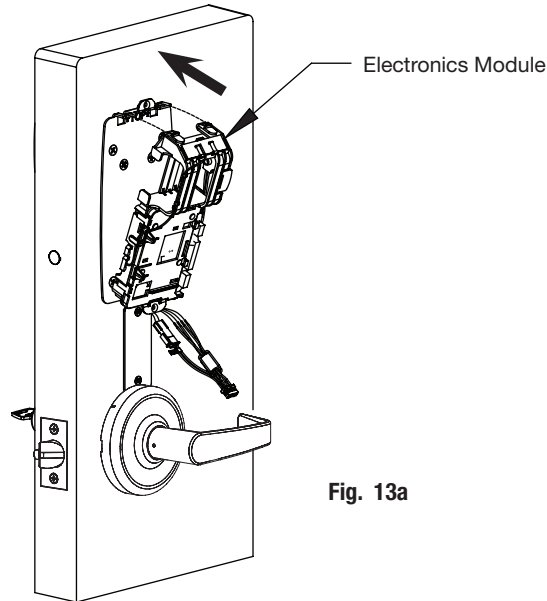

Fig. 13a
- Tilt the module upward and secure the top two tabs into the mounting plate (Fig. 13a).